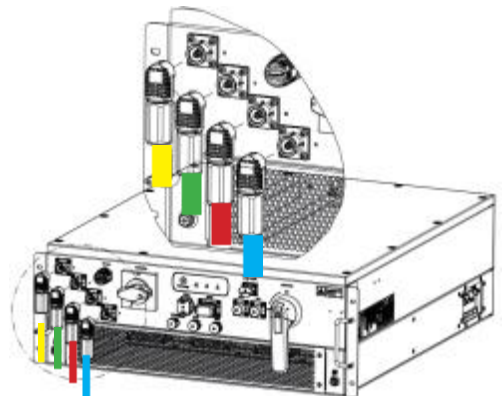

Figure 6-7 Schematic diagram of AC wiring
Step 3: Strip the U,V, W and N cables to appropriate lengths with wire strippers, respectively put them into the plug housing and sealing rubber sleeve. Use hydraulic crimping pliers to crimp them onto the plug terminals. Assemble the rubber sleeve and plug housing, and finally plug the connectors into the corresponding sockets on the converter, as shown in Figure 6-7.